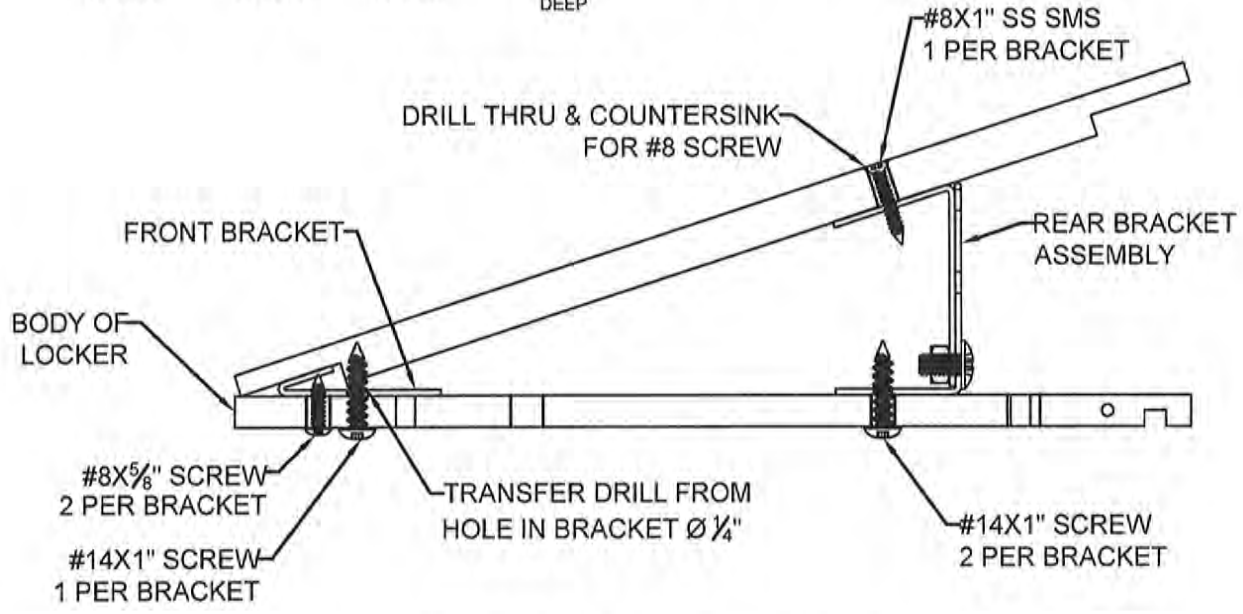

Figure 7.1 Slope Top Assembly
- 7.2 Locate the front bracket as indicated on the shop drawings. Install with (2) #8 X 5/8" screws thru the inside of the locker front vent holes (Fig 7.1).
- 7.6 Attach the rear of the slope top panel by drilling a 1/8" hole thru the slope top and rear bracket. Countersink for #8 screw. Use a #8 X 1" screw to attach, see Figure 7.1. Adhesives (double sided tape, liquid nails, etc.) can be used instead of using screws.